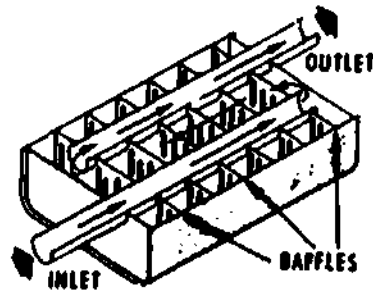

Fig 5-11. Baffle-type muffler.
b. Baffle-type muffler (fig 5-11). The other muffler design is called the baffle-type muffler. Here the exhaust enters the muffler and then must travel through holes in several baffles before it escapes through the muffler outlet. Often a small hole is drilled in the bottom of the muffler to allow condensed water to drain. Mufflers are made of sheet metal and are crimped or welded together at the seams. They cannot be disassembled.